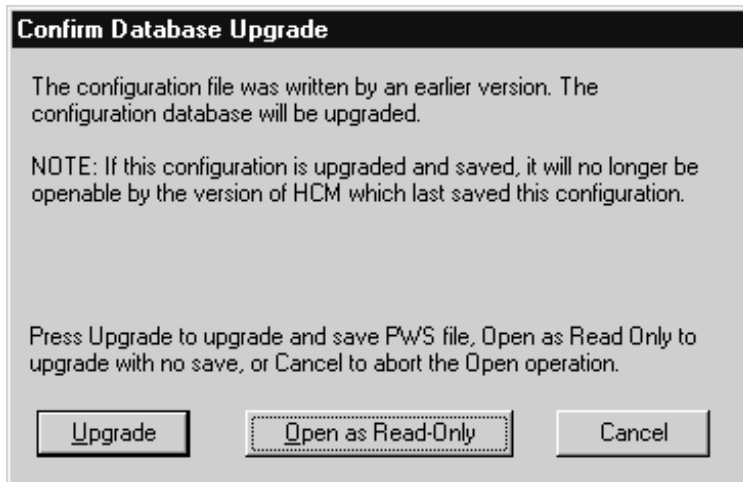

Figure 30. Confirm Database Upgrade
1. Open the pre-V1R7 configuration file (**File → Open**). HCM prompts you to either upgrade or open the file as read-only (Figure 30 on page 69). It is recommended to use the **read-only** option, because this choice keeps a backup of the original configuration file. Or you can load a pre-V1R7 IODF into a new or existing, pre-V1R7 configuration file (**File → IODF**). Depending on the size of the IODF, this process can take quite some time because HCD converts the loaded IODF data into the new version 5 format.